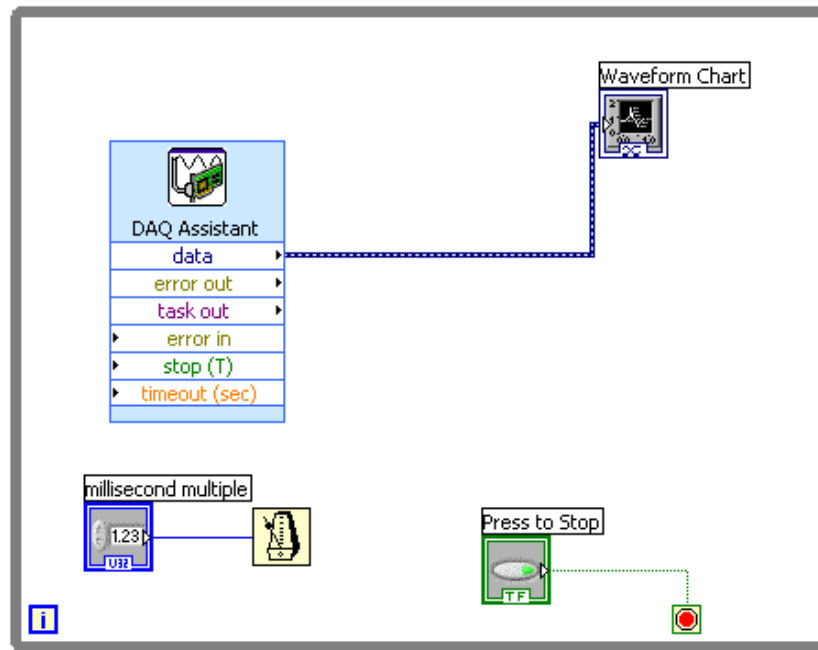

Figure 9: Block Diagram of VI
1. Open the block diagram of this VI by using the “Window” pull down menu. The first option is “Show Block Diagram”. It will appear as in Figure 9